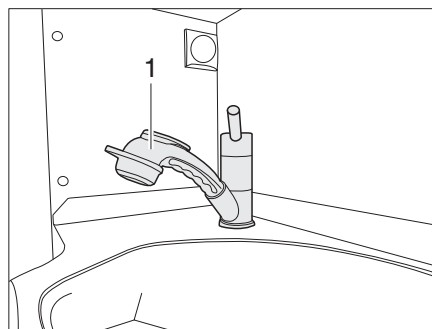

Fig. 129 Shower handset
- Pull out the shower handset (Fig. 129, 1) and let it drain.
- ▷ Use the shower handset (Fig. 129,1) to shower. Pull out the shower handset to do so.